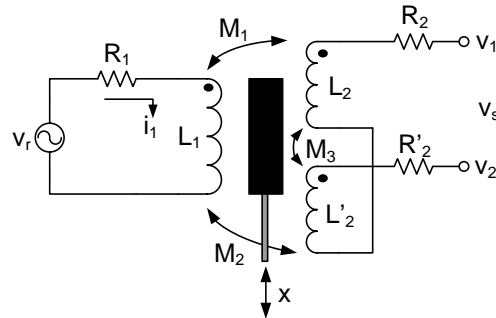
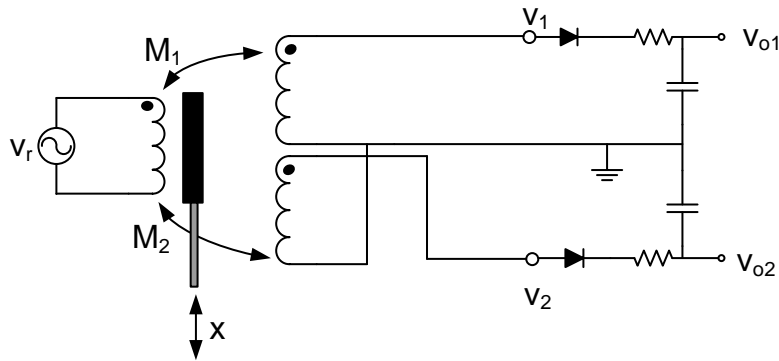

Figure 4: Measuring a displacement using an LVDT.
Figure 5: Double-sided rectifier with low-pass filter.
An active suspension system measures the displacement  $x$  between the wheels and the car body. This can be done using a linear variable differential transformer (LVDT). The sensor uses the magnetic coupling between a primary and two secondary coils to measure the displacement of a ferromagnetic core. Figure 4 shows the electrical equivalent circuit of a LVDT sensor that is connected to a voltage supply  $v_r$  with a frequency of 5 Hz and an amplitude of 10 V. There is no load connected to the output of the sensor. The LVDT has a sensitivity  $S$  of  $250 (\mu\text{V}/\text{V})/\mu\text{m}$ . The output voltage of the LVDT is equal to:
- (3p) (d) The output signal of the LVDT shown in Figure 4 is connected to a double-sided rectifier with a low-pass filter as is shown in Figure 5. Draw the output voltage,  $v_{o2} - v_{o1}$ , when the position of the core in the LVDT changes in 1 second from  $x = -15 \mu m$  to  $x = +15 \mu m$ .
- (3p) (e) The output of the sensor ( $v_s$  in Figure 4) can be connected directly to an AD converter. Alternatively the output of the sensor could be connected to a phase sensitive detector whose output is then connected to the AD converter. Give at least one reason why we prefer to use a phase sensitive detector in front of the AD converter instead of directly connecting the output of the sensor to the AD converter.